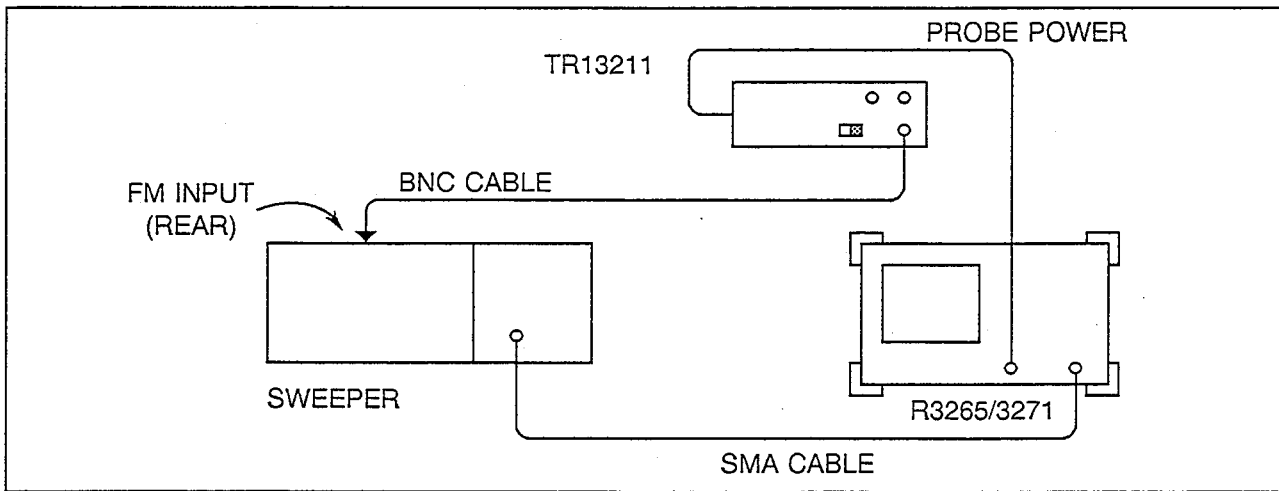

Figure 5-11 YTF Adjustment Setup
(1) Connect the equipment as illustrated in Figure 5-11.
(2) Press the **PRESET** key on the HP8350 and set the controls as follows: